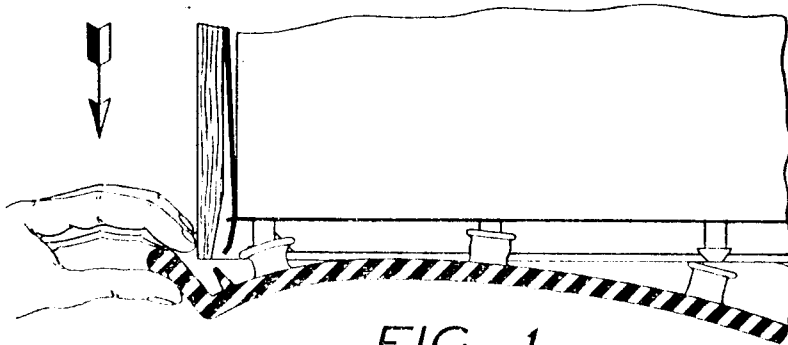

FIG. 1.
1. Remove rubber base by taking the turned up edge and pulling it down from the cabinet, as shown in Fig. 1.
11. The rubber base should then be replaced on to bottom of set and is held firmly in position by 10 rubber knobs on inside of base which are pressed firmly over 10 studs provided on bottom of metal base plate. Bring edges up tight around cabinet on all sides-see Fig. 1.